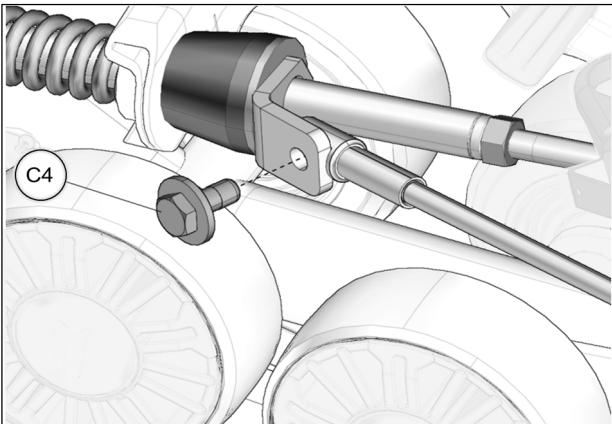

Fig. 24
14. Reverse steering wheel a little to be able to bolt support plate and cable together. Tighten provided bolt (**C4**) to 35 N·m [24 lb·ft]. See Fig. 24. Repeat steps on right side.